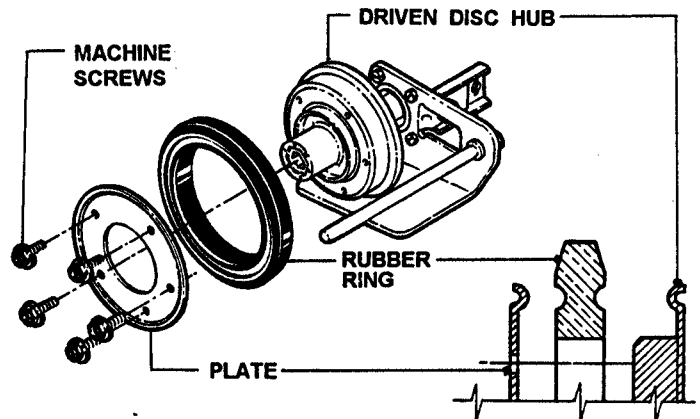

FIGURE 3.17
- (c) Remove the five machine screws and plate which secure the rubber ring to the driven disc hub. See Figure 3.17.